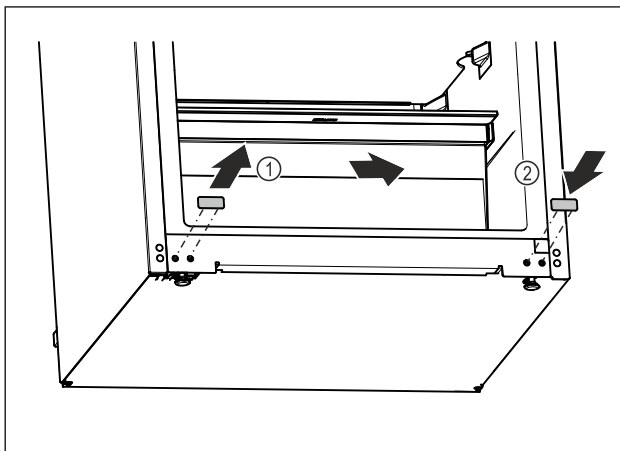

Fig. 20
- ▶ Pull out the cover plug. Fig. 20 (1)
- ▶ Insert the cover plug on the opposite side. Fig. 20 (2)